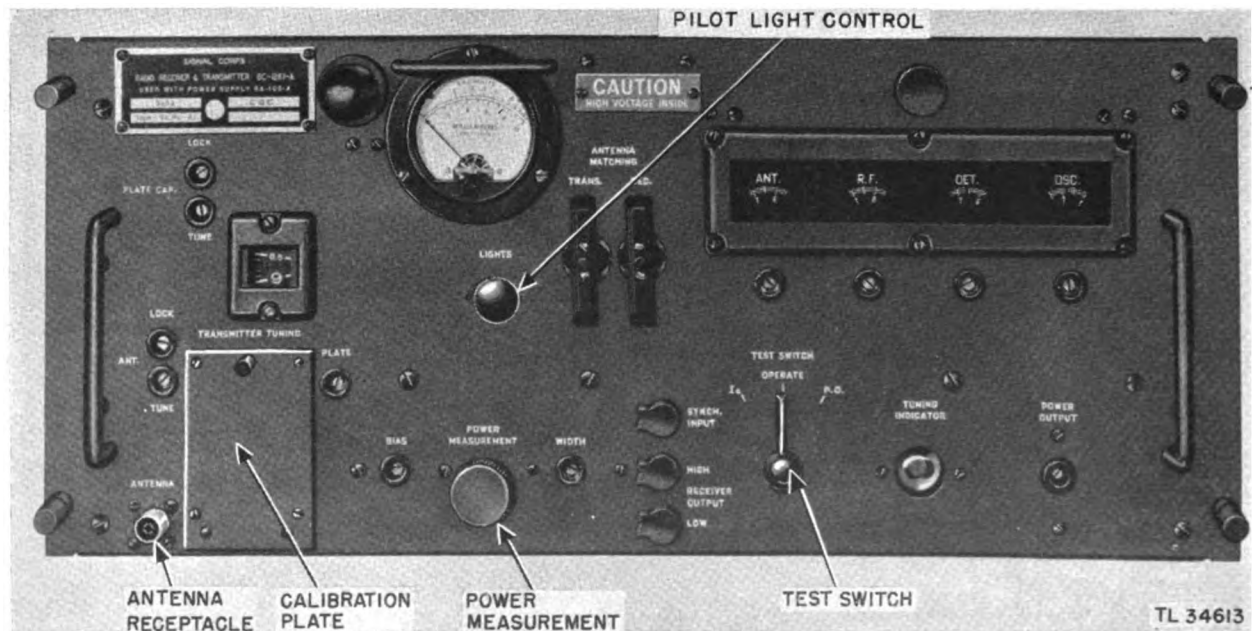

Figure 18. Receiver and transmitter—front panel.
- a. LOCATION (fig. 18).
- (1) The meter for—
- (2) The dials for—